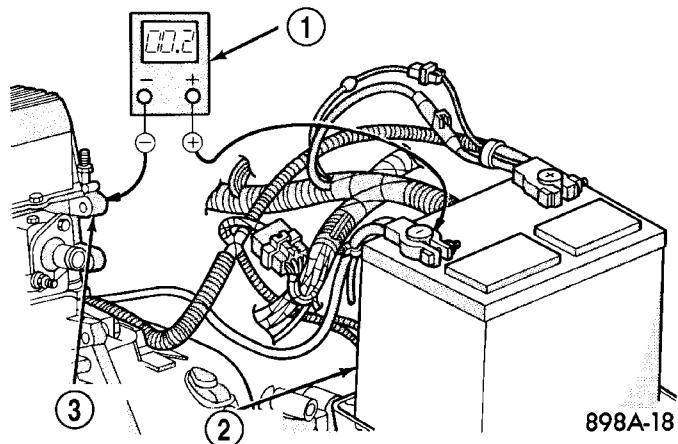

Fig. 16 Test Ground Circuit Resistance - Typical
(4) Connect the voltmeter to measure between the battery negative cable terminal clamp and a good clean ground on the engine block (Fig. 16). Rotate and hold the ignition switch in the Start position. Observe the voltmeter. If the reading is above 0.2 volt, clean and tighten the battery negative cable eyelet terminal connection at the engine block ground. Repeat the test. If the reading is still above 0.2 volt, replace the faulty battery negative cable.